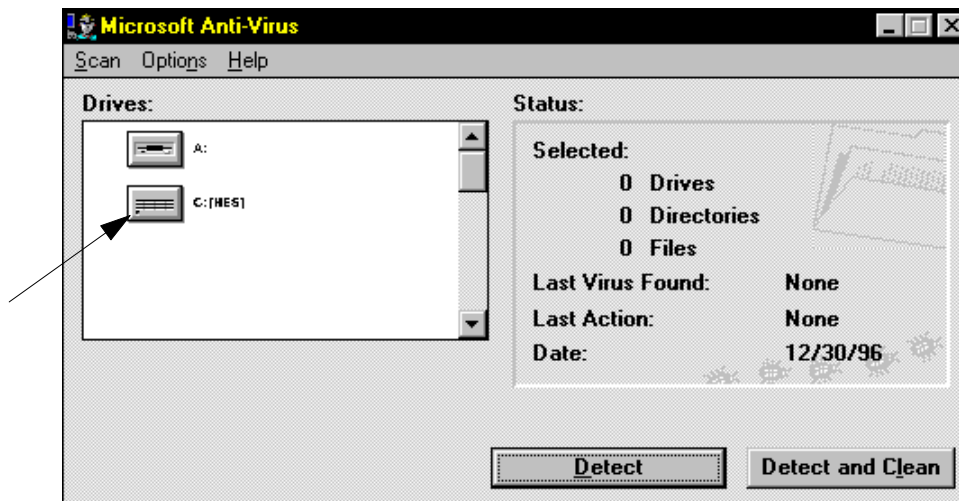

Figure A.19 Microsoft Anti-Virus Application
1. Select the MWAV item from the **Programs/Applications** pop-out menus. This brings up the **Microsoft Anti-Virus** application. Refer to Figure A.19.
2. Click the **C:** drive as indicated in Figure A.19. The application will read the directories.